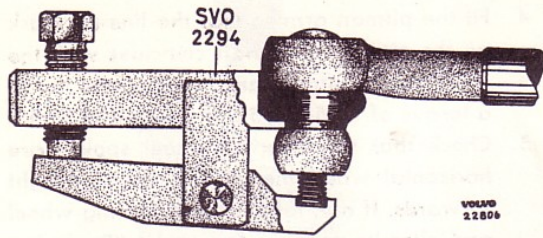

Fig. 40. Removing ball joint.
The steering rod ball joints are made integrally with the steering rod so that the rod must be replaced complete. When removing, the split pins and castle nuts are first removed. Tool SVO 2294 is then placed on the ball joint as shown in Fig. 40. Press in the tool properly and make sure that the thread on the ball joint enters the recess in the tool. Screw in the screw until the ball joint releases. If the steering rod is to be removed without taking off the wheels, the ball joint on the pitman arm or relay arm respectively must
The tie rod ball joints can be replaced independently. When replacing, the ball joint is first disconnected from the pitman arm or relay arm respectively as described above, see Fig. 40. The locknut or clamping screw respectively is then slackened and the ball joint screwed out. To start with, the new ball joint is screwed in the same number of turns in order to facilitate adjusting the toe-in. Lock the ball joint to the rod.
- Screw back the screw on puller SVO 2294 and place the tool on the tie rod ball joint at the relay arm as shown in Fig. 40. Press in the tool properly and make sure that the thread on the ball joint enters the recess in the tool. Screw in the screw until the ball joint releases from the relay arm.